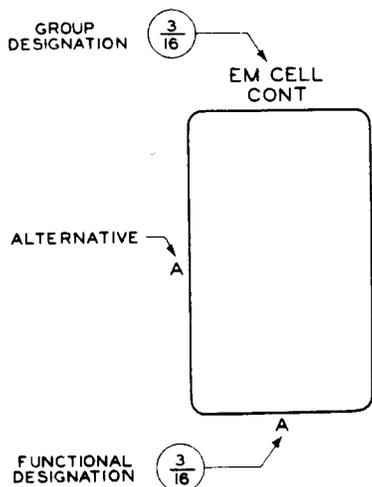

Fig. 39 - Power Relays, Bells, Contactors, or Circuit Breakers
2.27 Designate contactors according to Fig. 39.
2.52 For power relays, see Fig. 39. For relays on panels, see Fig. 49 through 51.